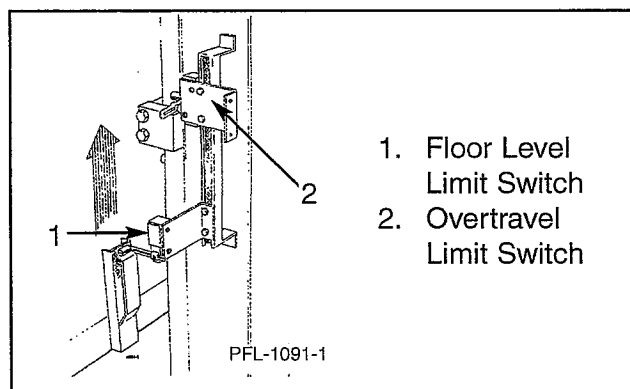

Figure 17
3. When it arrives at the next level, the **floor level limit switch** (one per level) is activated by movement of a cam located on the side of the carriage. When activated, this switch cuts the power to the motor circuit, the motor starter contacts drop out or open, the motor stops, and the brake is applied stopping the carriage. See Figure 17.
4. The **overtravel limit switch** is a safety device mounted directly above the upper level floor level limit switch. The only time it should activate is if there is a failure of the upper level limit switch. Again, activated by the cam mounted on the side of the carriage, it will send a signal to shut the unit down. Before activating the unit, find out why this occurred and correct the problem. See Figure 17.